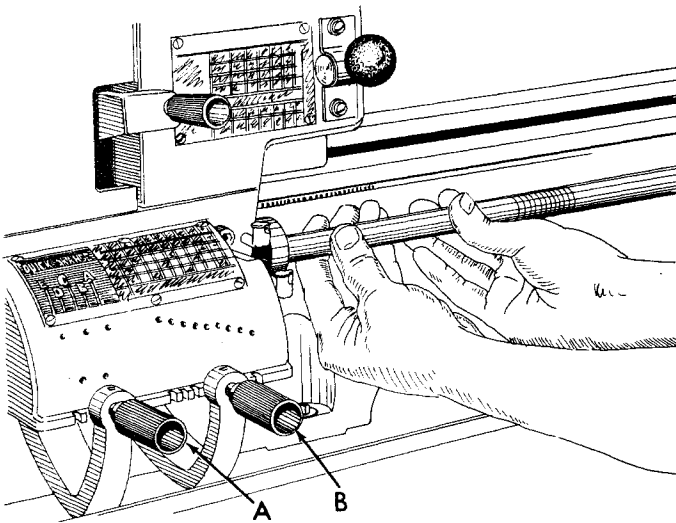

FIGURE 21
2. Disengage quick change levers (A and B, Fig. 21).
Lead screw should turn freely when rotated with fingers as shown in figure 21.